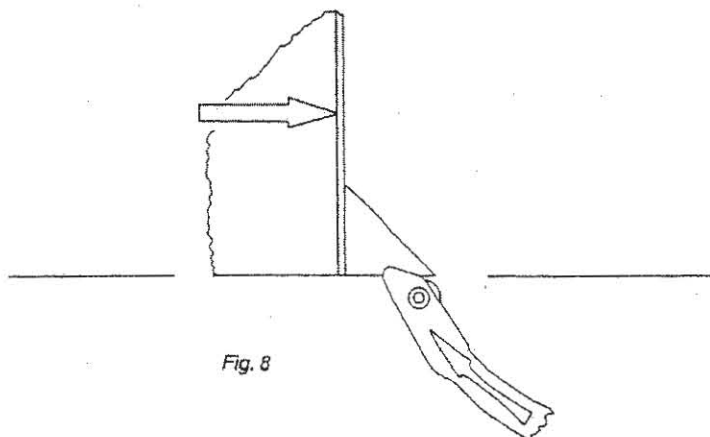

Fig. 8
a. Trip the knoter clutch by raising the trip bar until the notch is positioned over the knurl, and turn the flywheel counterclockwise until the tips of the needles are even with the bottom of the bale chamber, *Fig. 8*.